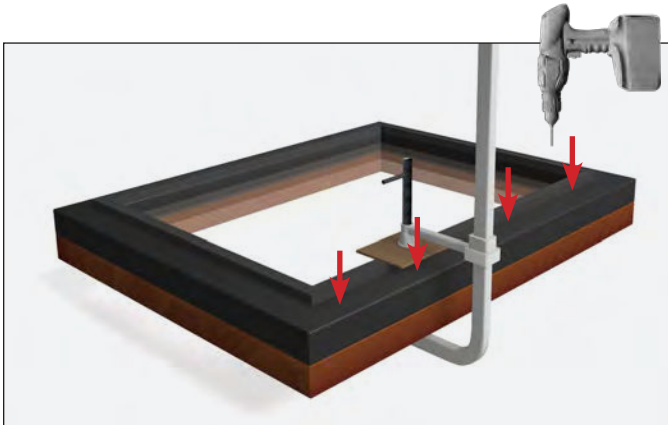

FIG. 6. Be sure to **NOT** drill through the panel's front.
7. Clamp the door and panel. See fig. 6
8. Carefully drill pilot holes into the panel. See fig. 6.